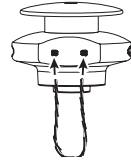

Fig. 17
1. Insert each end of the replacement line into the holes on either side of retention hook (Fig. 17).